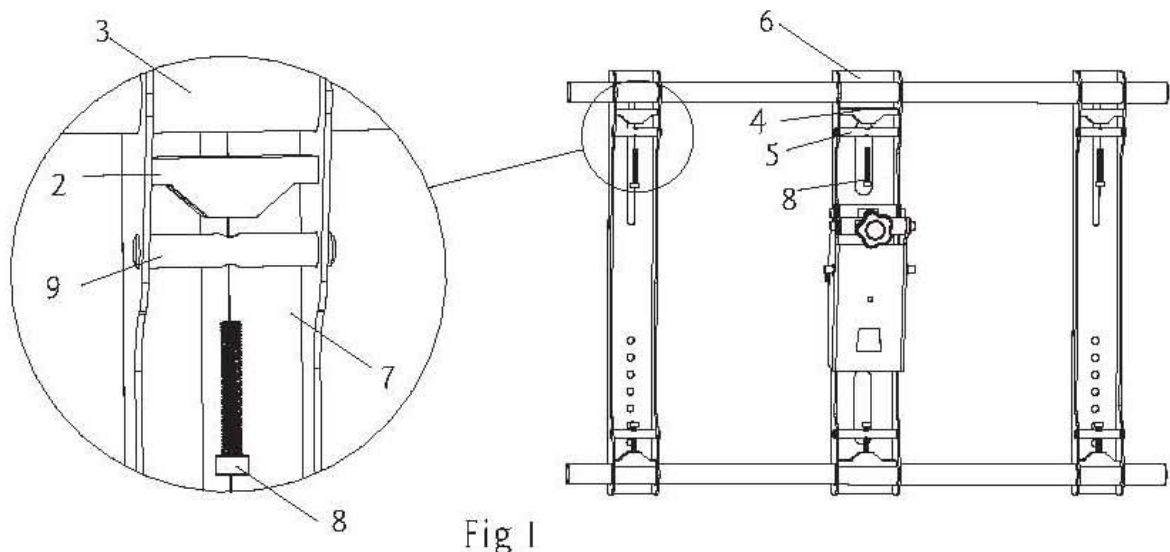

Fig 1
Open the box, and take out all kinds of parts provided. Make across-rod(3) through into the bracket I (7) in order which is bracket I (7) firstly, bracket2(6) secondly, and bracket I (7) finally. Tighten bolts into securing key 2(5) and securing piece 2(4) , to securing it on the middle of Across-rod(3).(The installing way of the other Across-rod is same.) According the size of LCD to confirm the position of brackets (left bracket I and right bracket I)(Fig 1).
3. For display with protruding HDTV tune or deeply curved backs (Fig b), two 9/16" spacers (R) or two 1/2" spacers (S) should be used. Stack two spacers and then install them between display and the bracket. As shown in Fig 1 c.